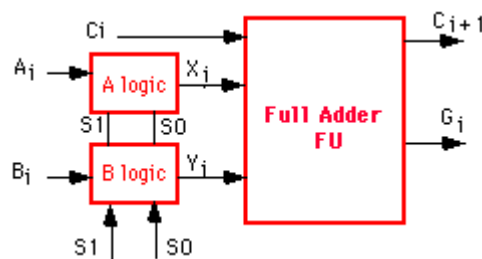

Figure 3: Schematic block diagram of the arithmetic unit.
- Figure 3 shows a schematic of the overall system, consisting of the ALU, Decoder and Switching circuit, and Displays on the Digilab board.
- *ALU Unit Design.* You have different choices to design and implement the ALU unit. A particularly attractive method is one that makes use of readily available modules such as Full Adders. The arithmetic unit basically performs additions on a set of inputs. By proper choice of the adder inputs, one can perform a range of operations. This approach is shown in Figure 3. The only blocks that need to be designed are the A Logic and B Logic circuits. You can make use of full adders available in the SPARTAN library.